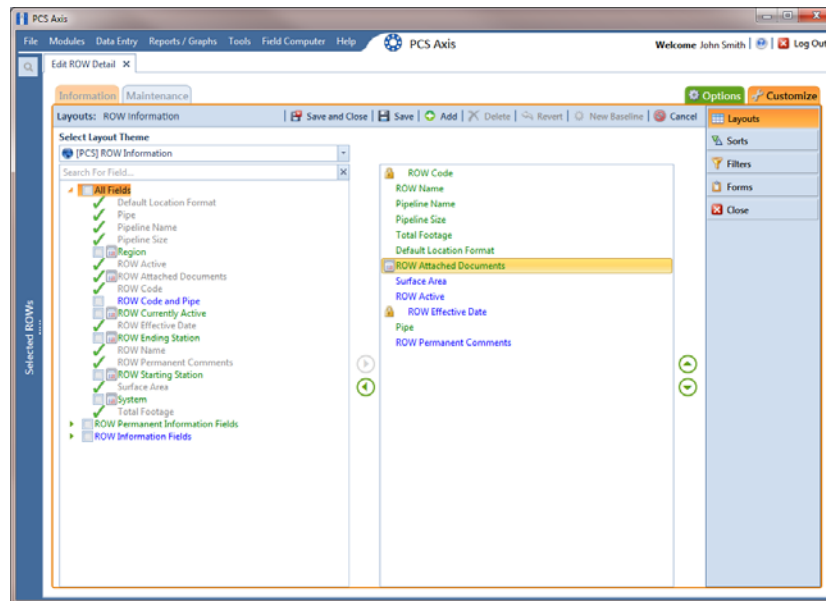

Figure 4-24. Layouts
- 5 Click the **Customize** tab  to view the *Layouts* page (Figure 4-24, page 150).
- 8 Add the field *ROW Attached Documents* in the layout theme. Double-click **ROW Attached Documents** in the left pane of the *Layouts* page to move it to the right pane. Add other fields as required. The layout theme includes all fields listed in the right pane (Figure 4-24).